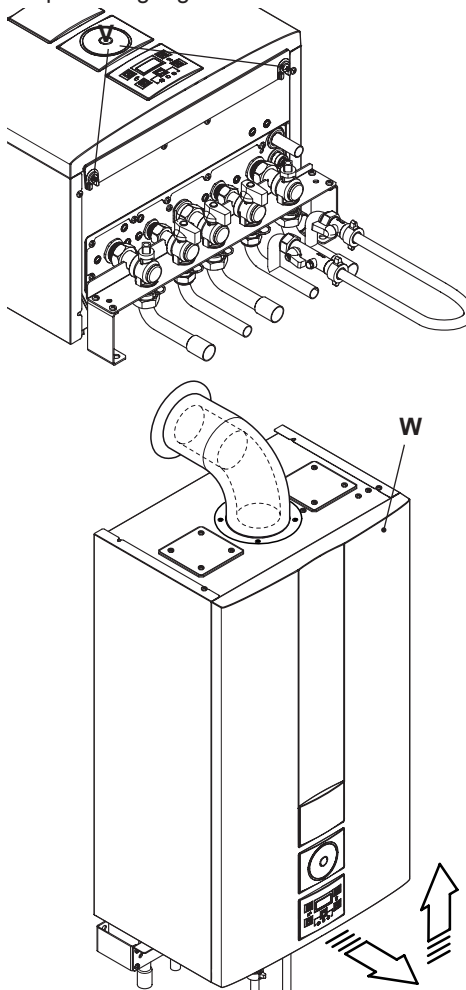

Fig. 6.15
- Unscrew screws "V" and remove the front panel "W" by pulling it and pushing it towards the top so that it is freed from the top housing Fig. 6.15.